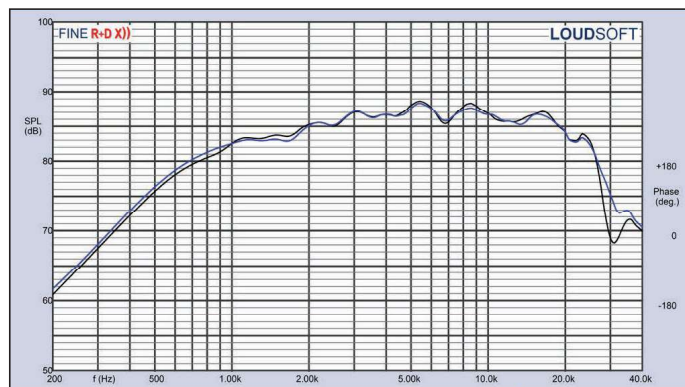

Figure 7: Scan-Speak D2010/852100 two-sample SPL comparison
**Figure 6** shows the 180° horizontal polar plot (in 10° increments with 1/3 octave smoothing applied), generated by the CLIO Pocket analyzer and accompanying microphone (courtesy of Audiomatica SRL). Last, **Figure 7** gives